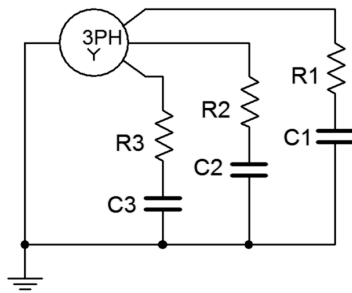

Figure 9.10
18. A 3-phase Y connected generator feeds a Y connected load consisting of 3 legs of 150Ω in series with $-j20 \Omega$ of capacitive reactance as shown in Figure 9.10. If the generator phase voltage is 120 volts, find the line voltage, the voltage across each load leg, the line current, and the apparent and real powers drawn by the load.